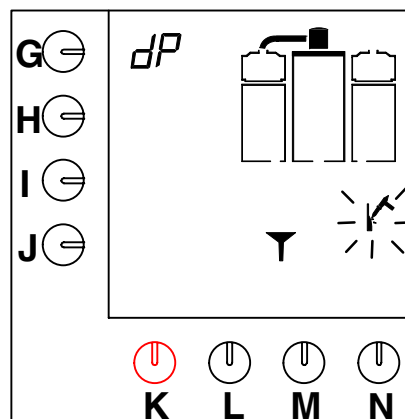

Fig. 19 Coffee-making system asks for descaling solution
- A signal sounds, the hammer symbol flashes and a funnel appears on the display (fig.19 ).